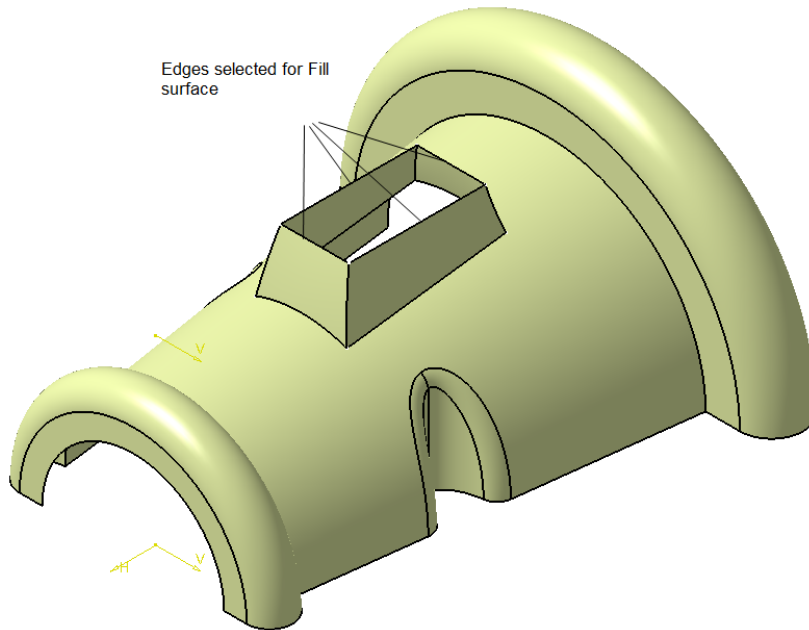

Figure 17-98 Edges selected to create the fill surface
2. Select the edges, as shown in Figure 17-98, to create the fill surface; the selected edges display a flag note for the closed counter in the graphics area.